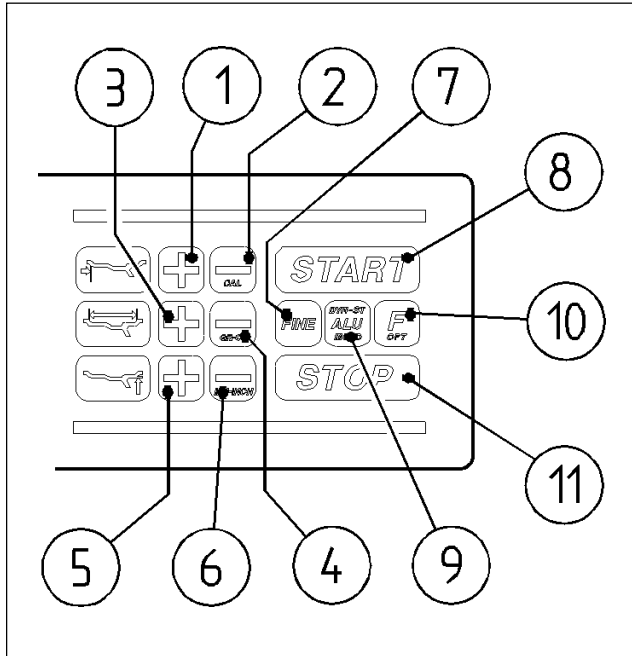

Fig.64
**B.** Press **CAL** (#2 Fig.64) and button #1 Fig.64 for at least 5 sec. while turning the machine on. The displays will blink: **[CAL] [dis]** and then **[dis] [ 0 ]**.
**C.** Set the offset gauge to read '0' on the gauge meter (see Fig.42). While holding the gauge in position, press the **F** button (#10 Fig.64). The displays show **[dis] [160]** .
**B.** Press **CAL** (#2 Fig.64) and button #5 Fig.64 while turning the machine on for at least 5 sec. The displays will blink : **[CAL] [dia]** and then **[dia] [FLA]**.